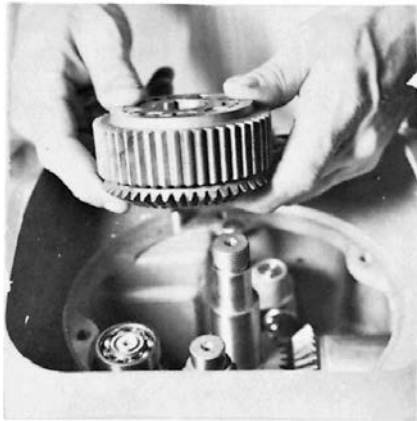

Fig. 3-12
- K. Remove bevel gear and roller clutch assembly as a unit (Fig. 3-12).
- P. Install the bevel gear and roller clutch assembly as a unit (Fig. 3-12). Turn the planetary shaft so the gear teeth of the bevel gear pass through those of the low speed pinion on the transmission shaft.